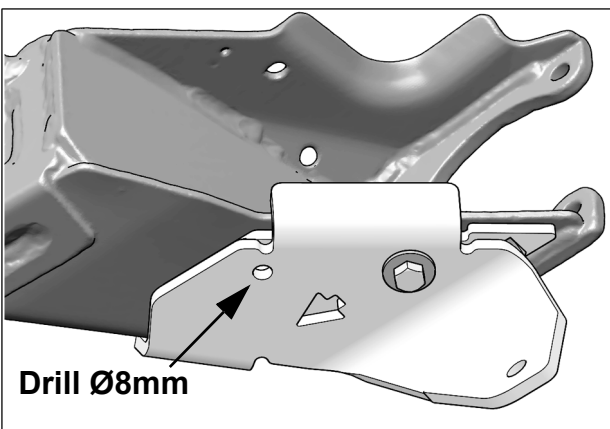

Fig. 6
6. Using the free anchor bracket hole as a template, drill out an additional Ø8mm hole in trailing arm of vehicle. See Fig. 6